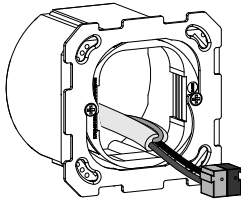

Fig. 3: Fitting the supporting ring
- Mount the fixing plate with adapter ring in the correct position on a wall box (Fig. 3).